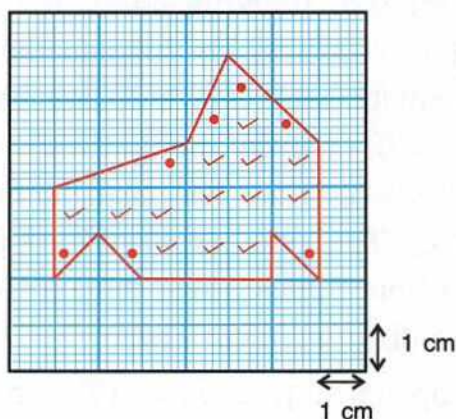

Fig. 2.20 Measuring the area of an irregular surface using a graph paper
2. In Fig. 2.20 the complete squares are marked as (\checkmark) and the half or more than half squares are marked as (\bullet)